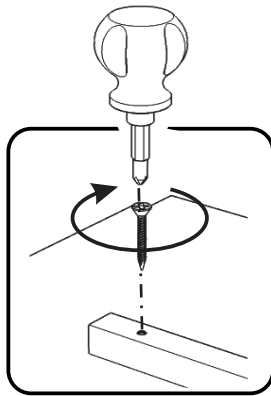

Figure 8
Attach Supports (J) to Shelves (I) with Wood Screws (long) into pre-drilled holes. (See Figure 8)